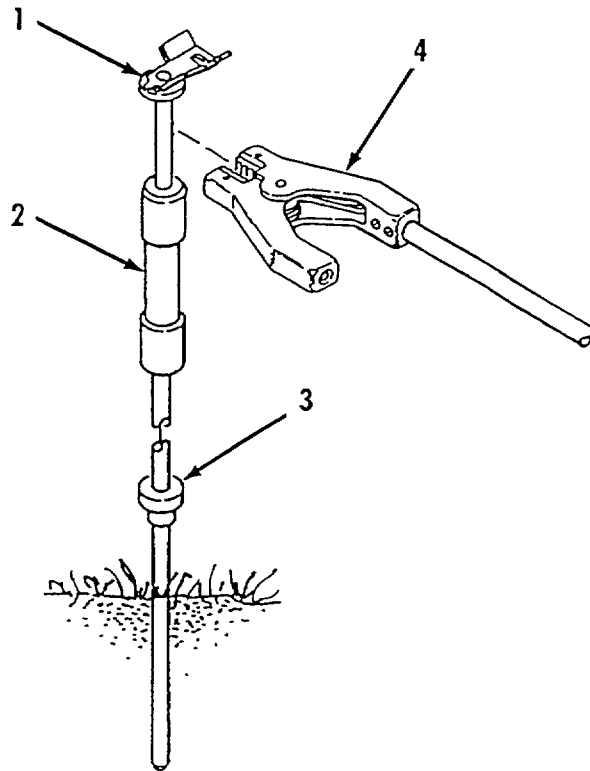

Figure 2-23. Refueling Point Ground Rod Installation.
c. Refueling Point Ground Rod Removal. Refer to figure 2-23.